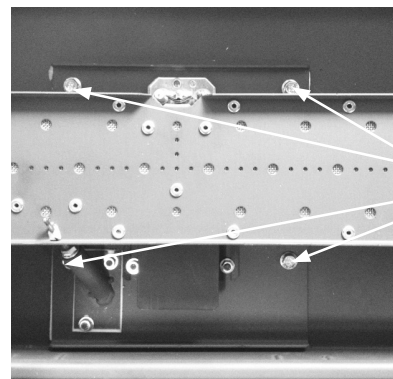

Figure 2.
Step 4: Remove the 6 burner holddown bolts See Figures 2 through 4.